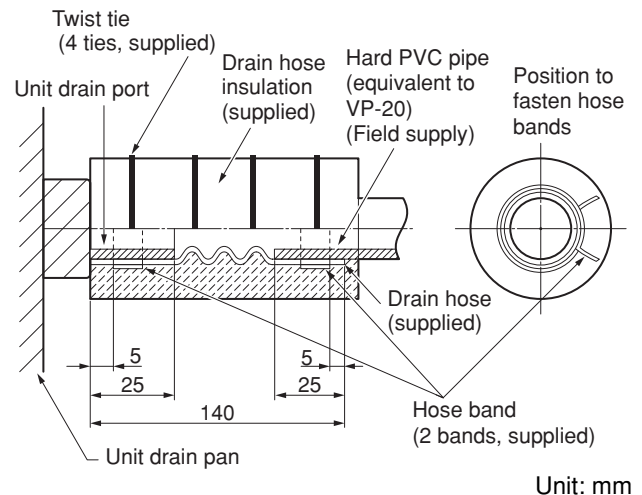

Fig. 3-54
- Attach so that the hose band fastener is on the side of the drain port. (Fig. 3-54)